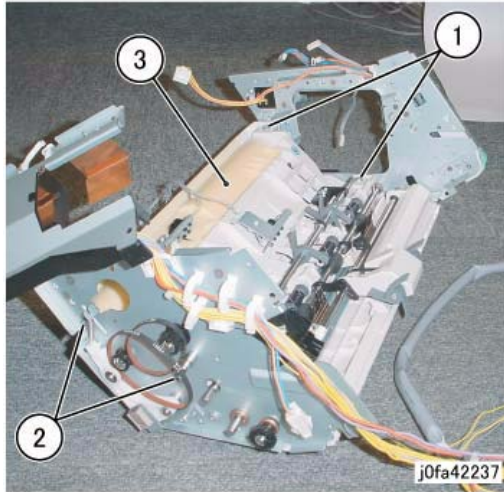

Figure 6 Removing the ENT Lower Chute Assembly (j0fa42237)
10. Remove the ENT Lower Chute Assembly. (Figure 6)